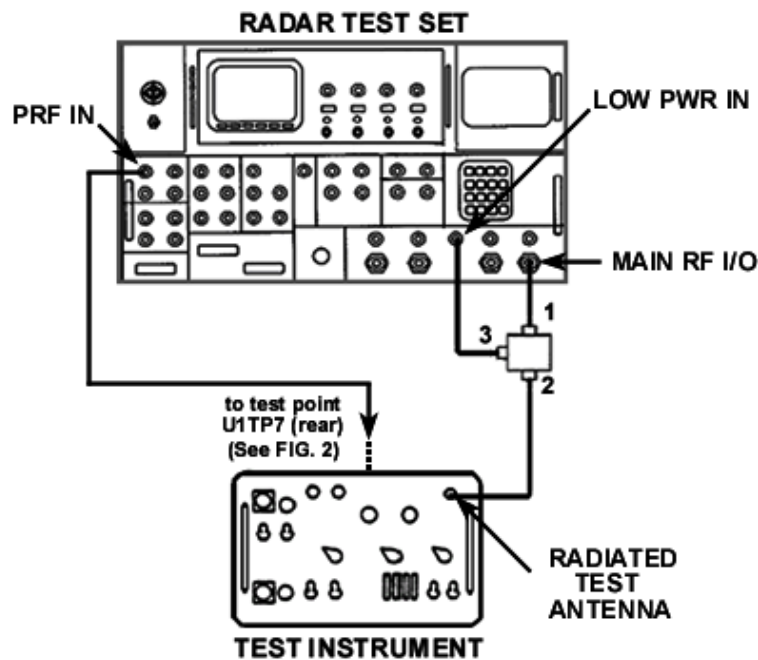

Figure 1. Receiver sensitivity – equipment setup.
- k. Connect equipment as shown in figure 1.
(3) Remove cable from TI **RADIATED TEST ANTENNA** connector (fig. 1) and connect end of cable to peak power meter sensor.
(4) On radar test set **Menu 11,** set **CW** to **ON** and measure and record power output at end of cable while cycling RF output between power settings noted in (2) above for threshold point. Average result should be -6 dBm  $\pm$ 1 dB, if not perform **b** below.
(5) Set radar test set **Menu 11, CW** to **OFF.** Disconnect cable from peak power sensor and reconnect to the TI **RADIATED TEST ANTENNA** connector (fig. 1).
(2) Set TI **POWER** switch to **ON**.
(3) Connect end of cable which was connected to TI **RADIATED TEST ANTENNA** connector (fig. 1) to peak power meter sensor.
(4) On radar test set **Menu 11**, set **CW** to **ON** and adjust RF power to obtain a reading of -6 dBm on peak power meter.
(5) Set radar test set **Menu 11**, **CW** to **OFF**. Disconnect cable from peak power sensor and reconnect to the TI **RADIATED TEST ANTENNA** connector (fig. 1).